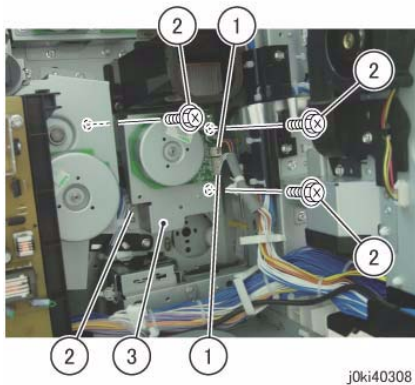

Figure 3 Remove the Main Drive Assy
7. Remove the Main Drive Assembly. (Figure 3)